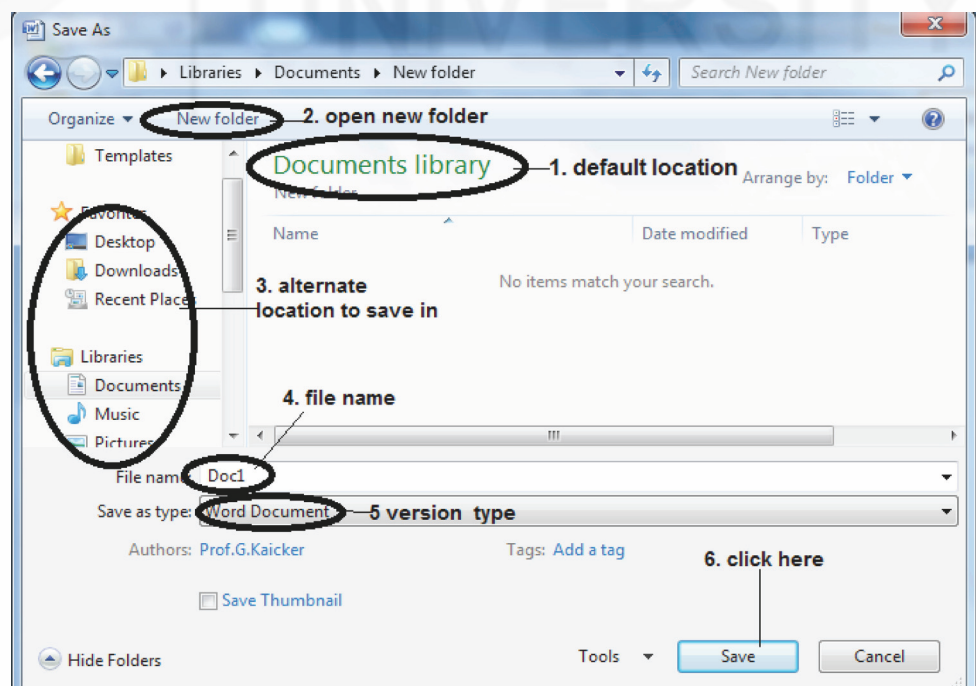

Fig.14.4: Saving a new document
- **Save As** allows you to save a document under a new name in the folder of your choice. When you click on Save As, a new box will open on screen (Fig.14.4). First go to the **Save In square**. It should say **Documents Library** (1). In the block below yellow folders will appear if you have made them earlier OR you can click on new **New Folder** (2) to create an additional folder if you wish to save your document in it. Click on the folder you want to save the document in (3). Click on Open. Then check that you like the name of the document. (4) If you like it press Save (6). If you don't like it delete the file name and type a new name. Then click **Save**.